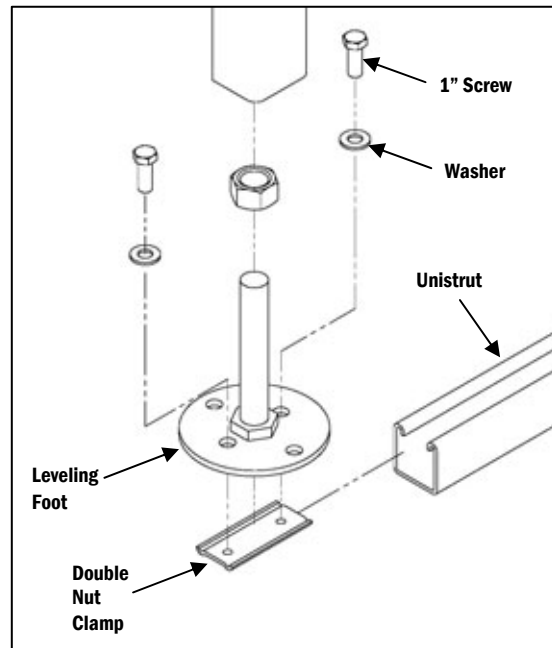

Figure 1
- a. Rotate the feet so the holes 2" apart are in line (Figure 1).